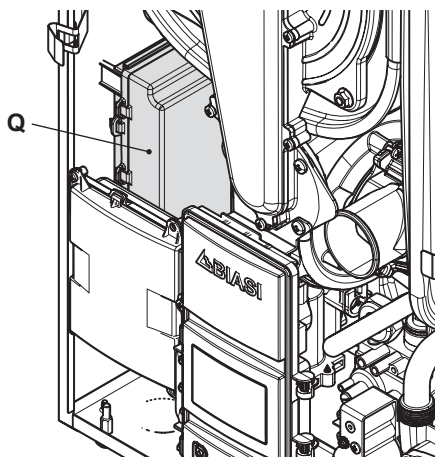

Fig. 6.15
- Identify the terminal block cover lid "Q" (Fig. 6.15) and open it.